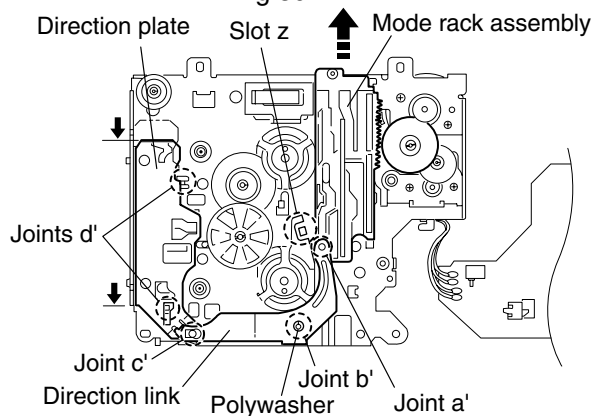

Fig.31
■ Removing the direction link / direction plate (See Fig.31 to 33)
(See Fig.31 and 32)